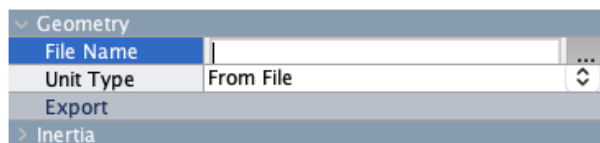

Figure 7: File Name Browse Button
9. Open the “File Solid” block and under the “Geometry” tab, click on the far-right side of the “File Name” field. We are clicking on a file browser button next to the text entry box. Note that this button is somewhat invisible initially, but is indicated with three little dots once selected. Figure 7 below highlights this button.